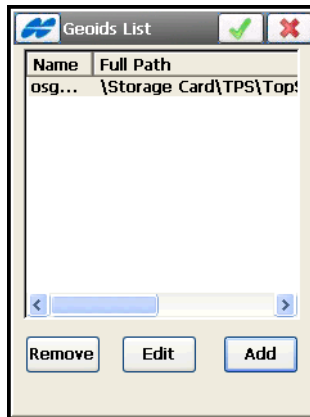

Figure 3-89. Geoid List
The **Geoids List** screen (Figure 3-89) contains a list of active *Geoids* available for selection.
- Pressing the ok  button returns to the *Geoid List* screen (Figure 3-89 on page 3-93).